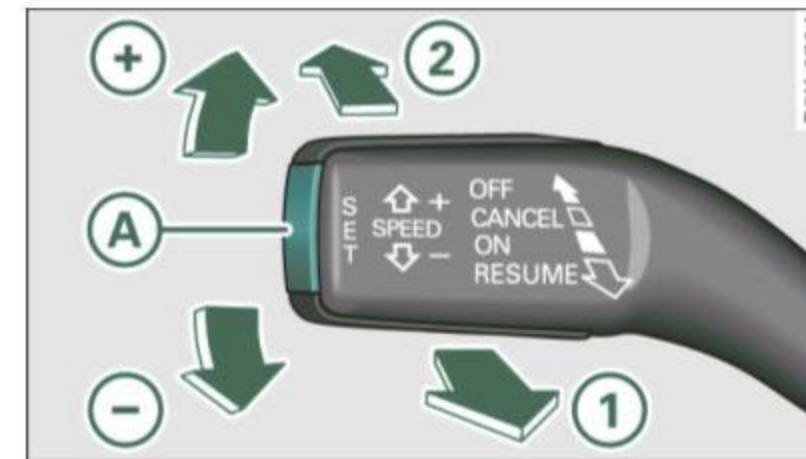

Fig. 110 Control lever with push-button
- Pull the lever to position **1** ⇒ fig. 110 to switch the system on.
- Press the lever in the direction of the  ⇒ *page 119*, fig. 110 or in the direction of the  to increase or decrease your speed.
- Pull lever into position 1 ⇒ *page 119*, fig. 110.
- Press the lever into position ② (not clicked into place) ⇒ *page 119*, fig. 110, or